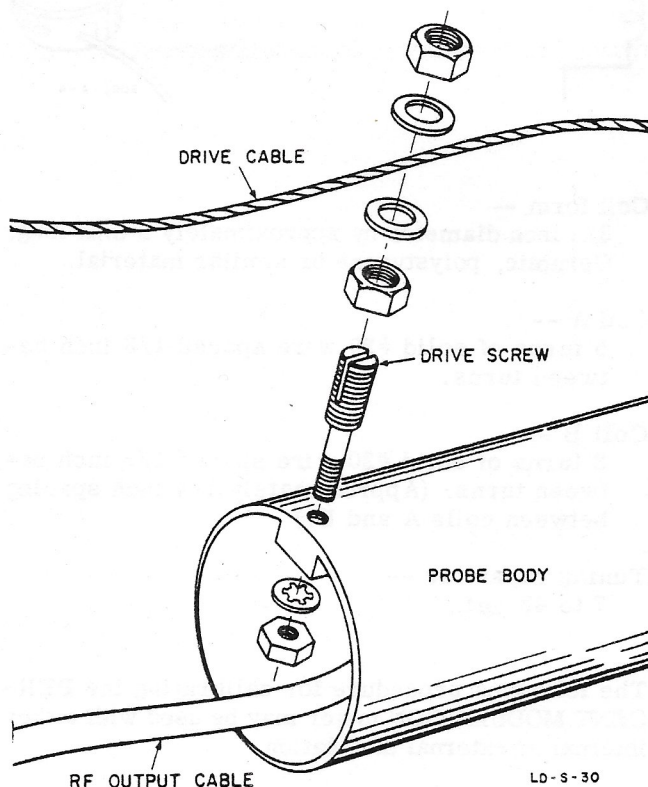

Figure 4-7b. Rear View Showing Attaching Parts
- b. Refer to Figure 4-7b. Remove the nut and washer that hold the drive cable in the probe drive screw in the top of the attenuator probe. Lift the cable out of the screw slot.